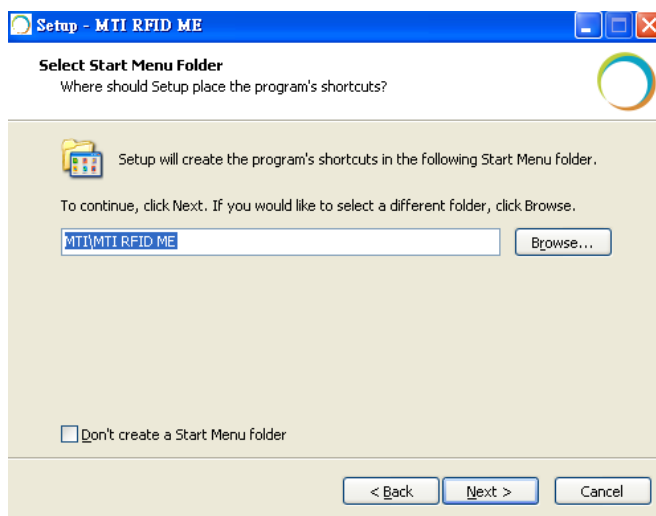

Figure 4
2.1.4. Select a destination for the program’s shortcut. To select a different folder, click “Browse” and choose one of the available options as shown in Figure 4.